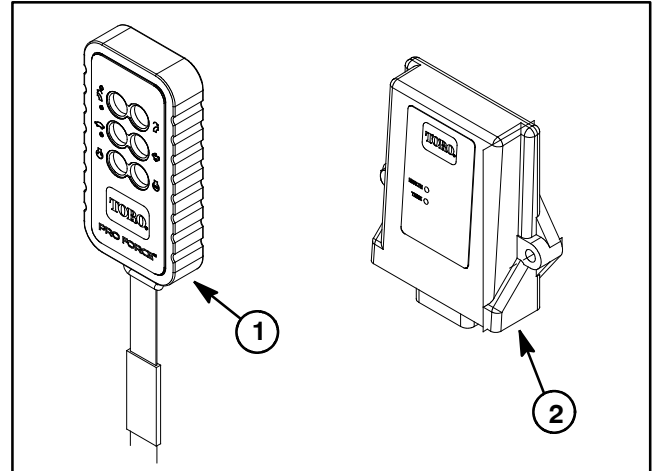

Figure 17
NOTE: Machines with a multi channel controller can be identified by the lack of an external antenna on the control module (Fig. 17).
The remote transmitter is a solid state electrical device that sends radio frequency (RF) signal inputs to the machine control module for control of machine electrical operation (Fig. 17). The remote transmitter has sufficient range to send an RF signal to the control module from the tow vehicle operator position.